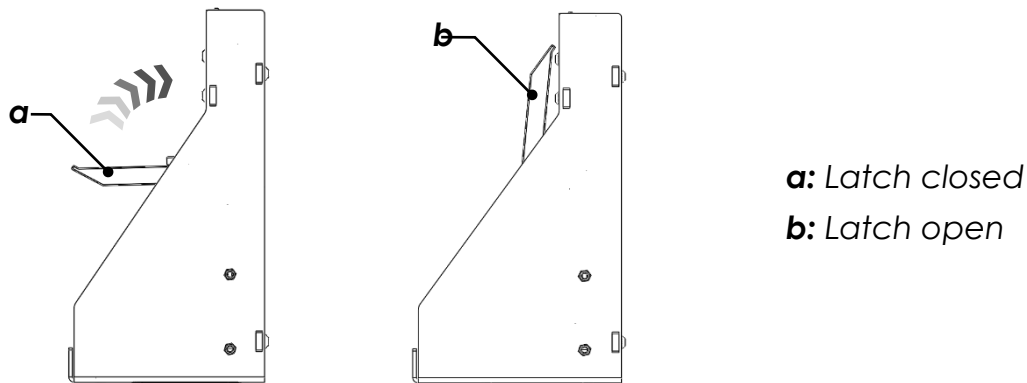

Figure 21
- Open the latch on print-head as shown in Figure 21.